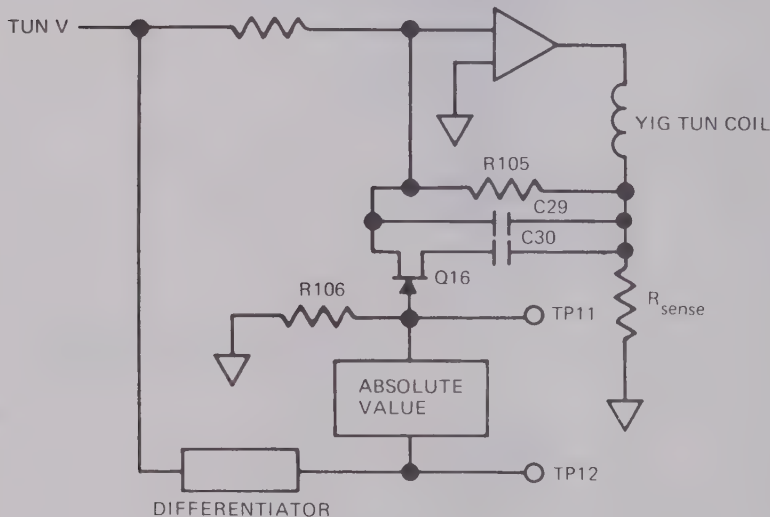

Fig. 5 Simplified circuit diagram of automatic tuning supply bandwidth
22. In the 6700A series of r.f. units, the tuning supply bandwidth is automatically controlled in accordance with the sweeping rate used by the operator. A simplified diagram of this circuit is shown in Fig. 5. The bandwidth is determined by R105 and the capacitance C29 or the parallel combination of C29 and C30. Bandwidth is maximal when Q16 is an open circuit and minimal when Q16 is a short circuit.